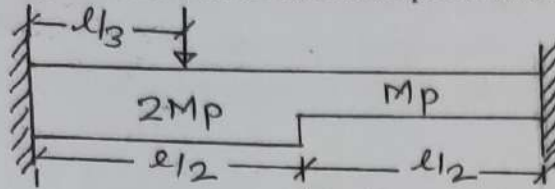

Figure 8
- b) A beam AB of span l is fixed at both ends. The beam carries a point load W at a distance $l/3$ from left end. The plastic moment of resistance of left half of beam is $2M_p$ while plastic moment of resistance of right half of beam is M_p . Find the value of load at collapse condition. Refer Figure 8. 10